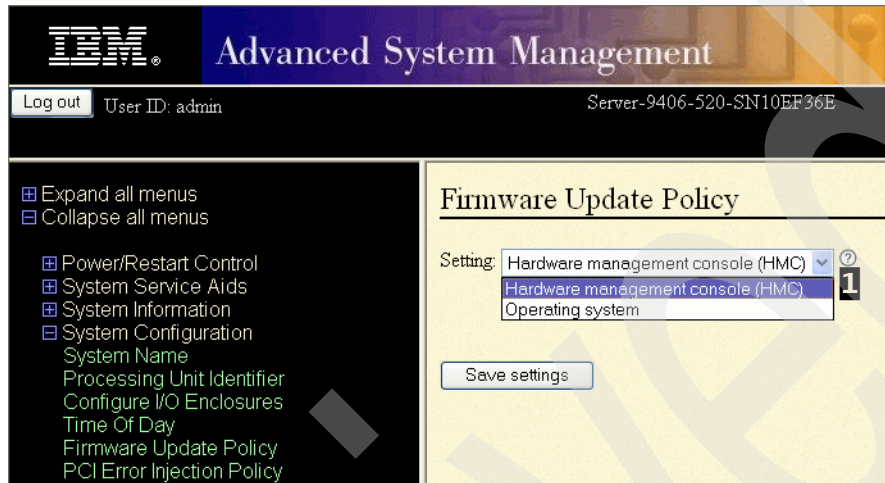

Figure 14-29 Firmware update policy screen
7. The main ASM screen is presented. In the navigation area, click **System Configuration** and select **Firmware Update Policy** (Figure 14-29).